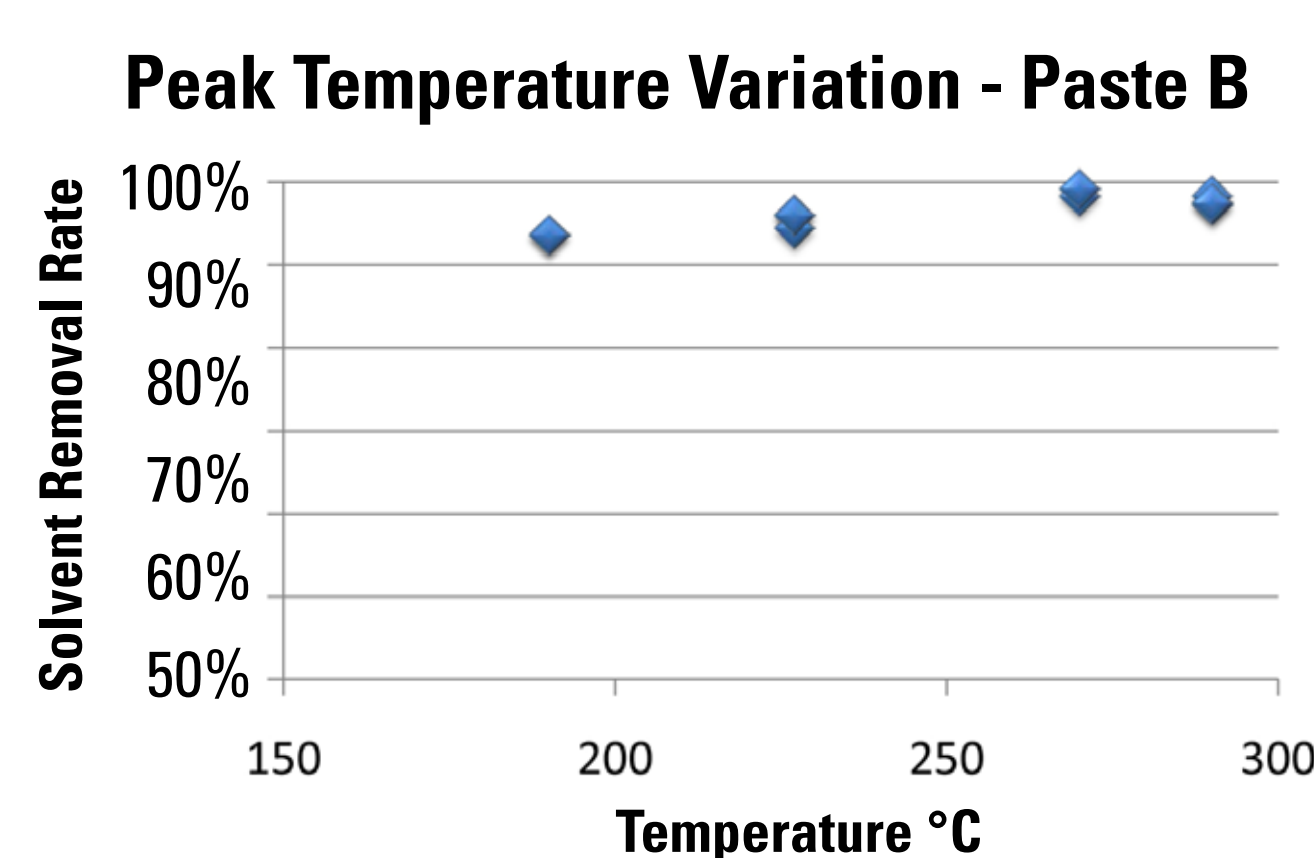

Figure 3: Impact of temperature on solvent removal rate of easy to dry Paste B
- ◆ Paste B: minimum temperature of 190°C - easy to dry (figure 3)